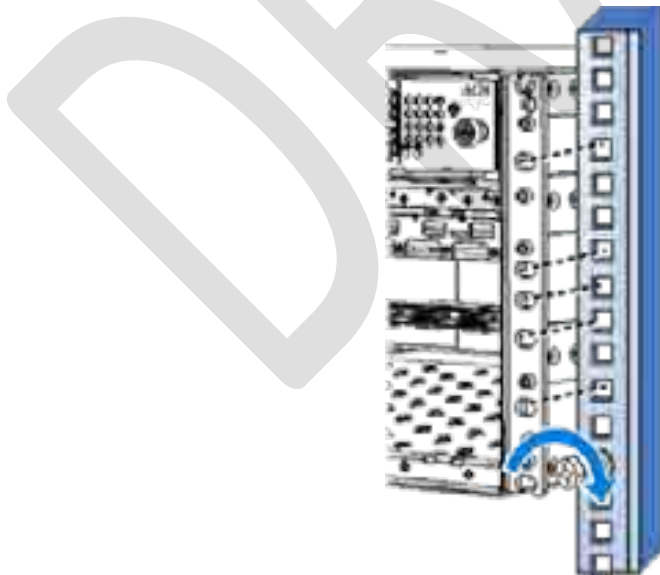

Figure 5-24. Installing Chassis in Rack
3. Referring to Figure 5-24 secure the units' rack ears to the rack frame as follows: